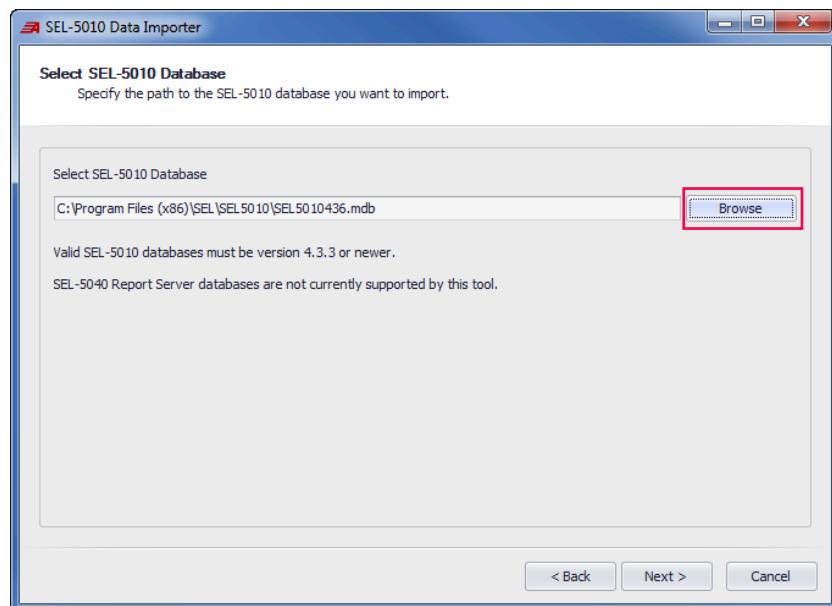

Figure 9.4 Specify the Path to an SEL-5010 Database
Step 6. On the **Select SEL-5010 Database** page, click **Browse** to select the SEL-5010 database file (as seen in *Figure 9.4*).
Step 8. Click **Next** to proceed (see *Figure 9.4*).